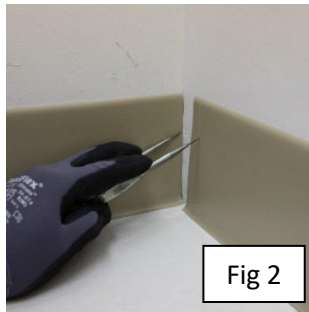

Fig 2
- Utilize dividers; place one pin at the top of the installed piece and one pin at the top of the uninstalled piece. Carefully, move the dividers downward in a straight vertical motion, allowing the pin of the dividers to follow the profile of the installed piece. At the same time, place adequate pressure on the pin to transfer and/or scribe the profile onto the surface of the uninstalled piece. (Fig 2)